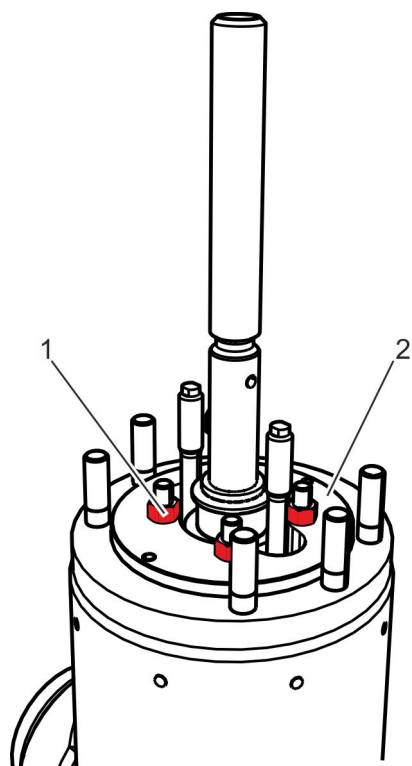

Fig. 29: Unscrewing the nuts from the clamping lid
2. ➔ For the version with clamping lid: Unscrew and remove the nuts (Fig. 29/1).